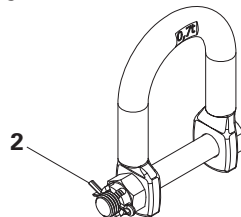

Fig. 4
- The bolt (3) must be pushed through the two legs of the Crane D-Ring (1) without exerting any force.
- The Crane D-Ring (1) must rotate freely around the bolt (3) in the axial direction.
- The Castle Nut (4) must be available and correctly positioned.
- The Split Pin (2) must be securely in position and functional. (Fig. 4)
- Attach crane lifting gear to the Crane D-Ring (1).